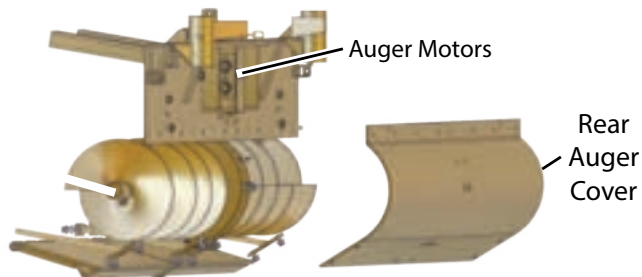

Figure 5-36. Rear Auger Cover (Side View)
5. Remove rear auger cover. **(Figure 5-36)**
7. Remove the upper end-mount bolts. **(Figure 5-36)**